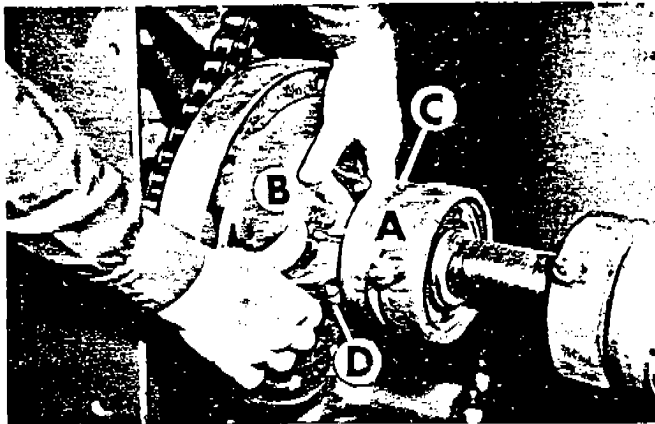

FIG. 1
The clutches are adjusted by depressing the lock lever (A) as shown in Fig. 1, and rotating the clutch finger assembly (B) in a clockwise direction, facing the clutch, to tighten and in a counter-clockwise direction to loosen. They should be adjusted to where it requires some leverage to engage them and should feel and hear a definite snap as the rollers engage the recess in the cam. Be sure the lock lever (A) drops into the slot when adjustment is completed.